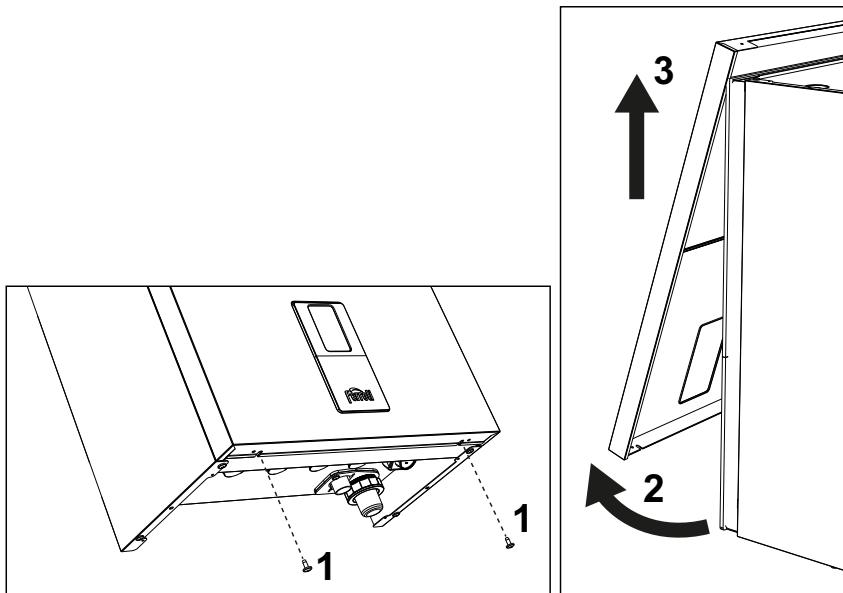

fig. 41- Front panel opening
- 1.Undo the screws "1" (see fig. 41).